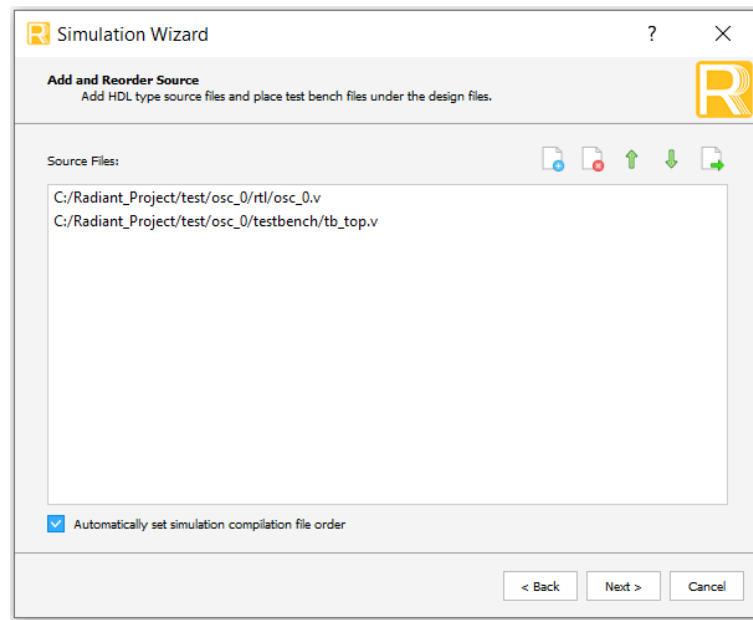

Figure 3.5. Adding and Reordering Source
- Click **Next** to open the **Add and Reorder Source** window as shown in Figure 3.5.